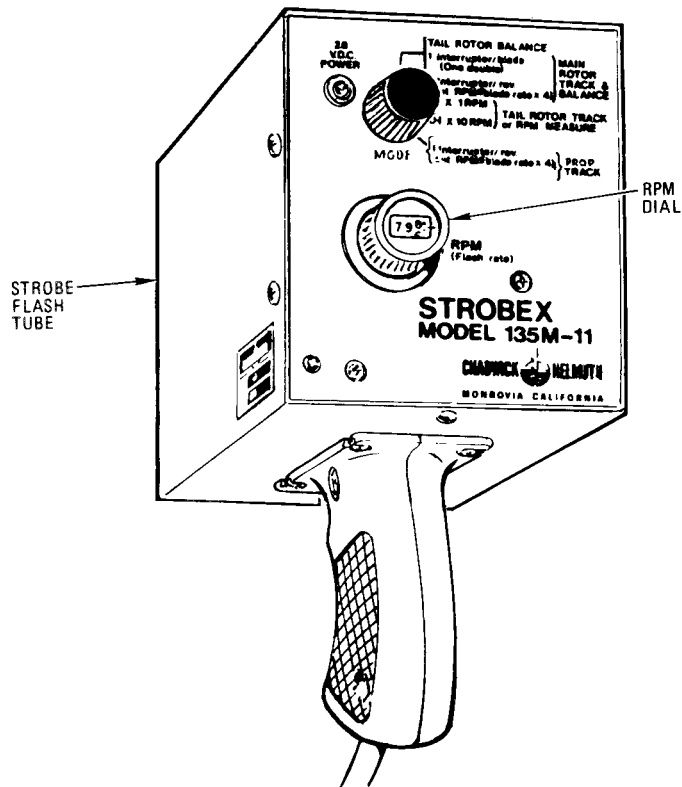

Figure 1-3. Strobex Tracker 135M11
b. Strobex Tracker 135M11. The Strobex Tracker (fig. 1-3) (hereafter referred to as Strobex) is a small hand held lightweight combination power supply and strobe flash tube. It illuminates reflective targets on the tail rotor to measure tail rotor clock angle, and on the main rotor to indicate rotor track and lead-lag.